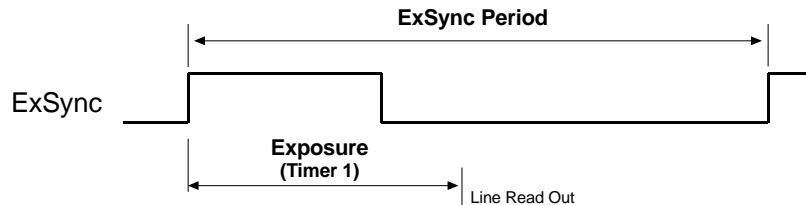

Figure 3-5: ExSync, Programmable Mode
- In **ExSync, programmable** mode, the rising edge of ExSync triggers exposure and charge accumulation for a pre-programmed period of time. The actual start of exposure is  $0.385\ \mu\text{s}$  later than the rise of the ExSync signal. The line is read out and transferred at the end of the pre-programmed period. The falling edge of ExSync is irrelevant (see Figure 3-5).